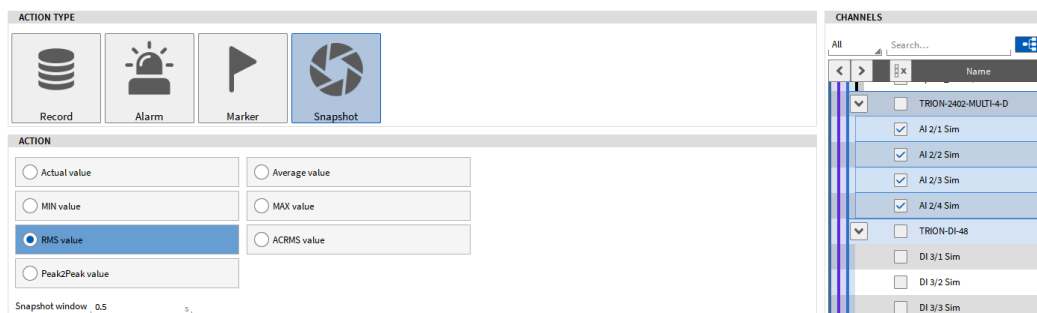

Figure 7-33: Snapshot Action Type
- Select *Snapshot* as Action Type and select *RMS value* as Action with a *Snapshot window* of 0.5s. The analog input channels used for the data query can be selected in the channel list on the right-hand side (see Figure 7-33). Data will be queried in the moment the Event configured above is activated.